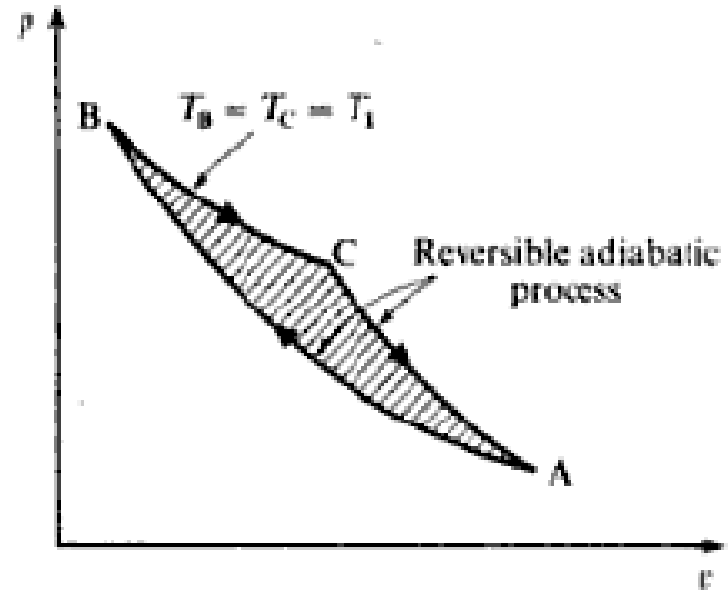

Fig.4.4: Hypothetical cycle on a  $p$ -  $v$  diagram
- This is represented by line AB on Fig. 4.4